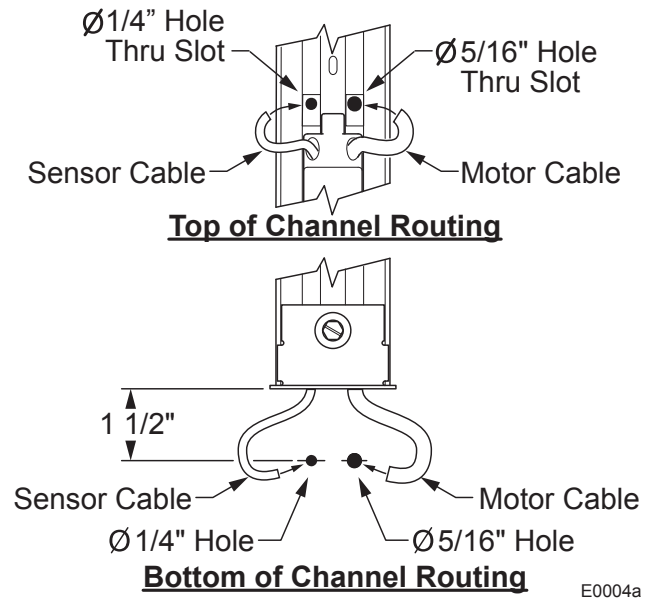

Figure 8. Cable Pass Thru Drill Pattern.
- 2.1 (Refer to Figure 8) Drill two 5/16" holes through the vehicle wall for the motor cable and exterior switch cable. Move the cables out of the way to avoid damage while drilling.